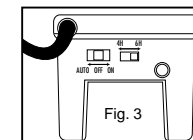

Fig. 3
The transformer has three settings: AUTO/OFF/ON (See Fig. 3)
**AUTO:** The "AUTO" setting allows automatic ON/OFF operation of the lights. When you place the switch in the "AUTO" position, the lights will come on at dusk and stay on for a time period of either 4 or 6 hours. To set the time period, set the switch located at the right of the "AUTO/OFF/ON" switch to either 4H or 6H. (See Fig. 3)